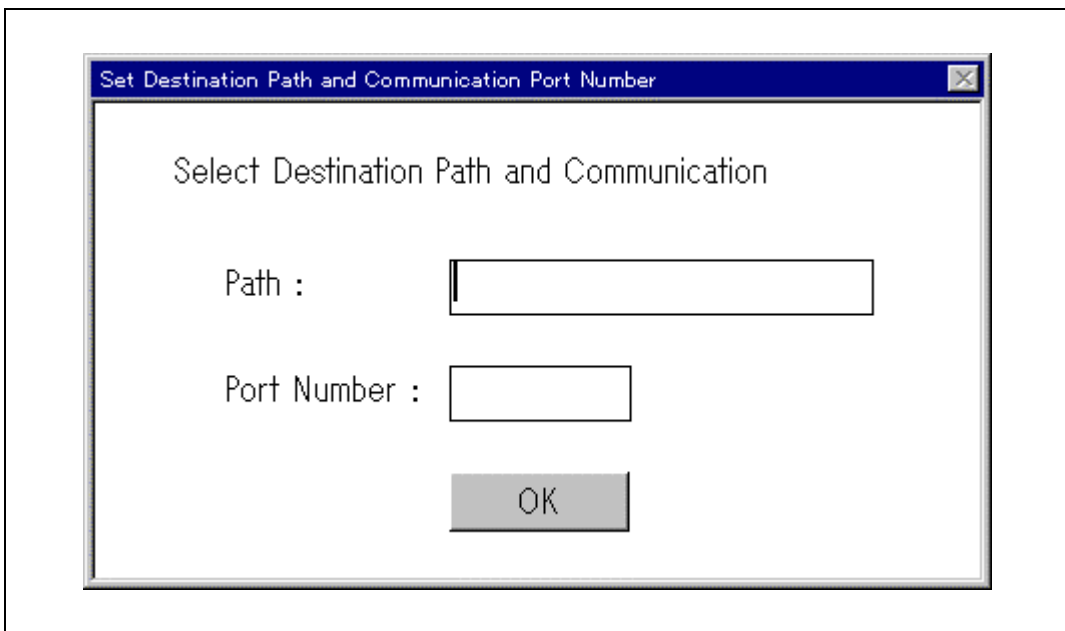

Figure 3.2 Installation Dialog Box
4. The installation dialog box shown in figure 3.2 is displayed.